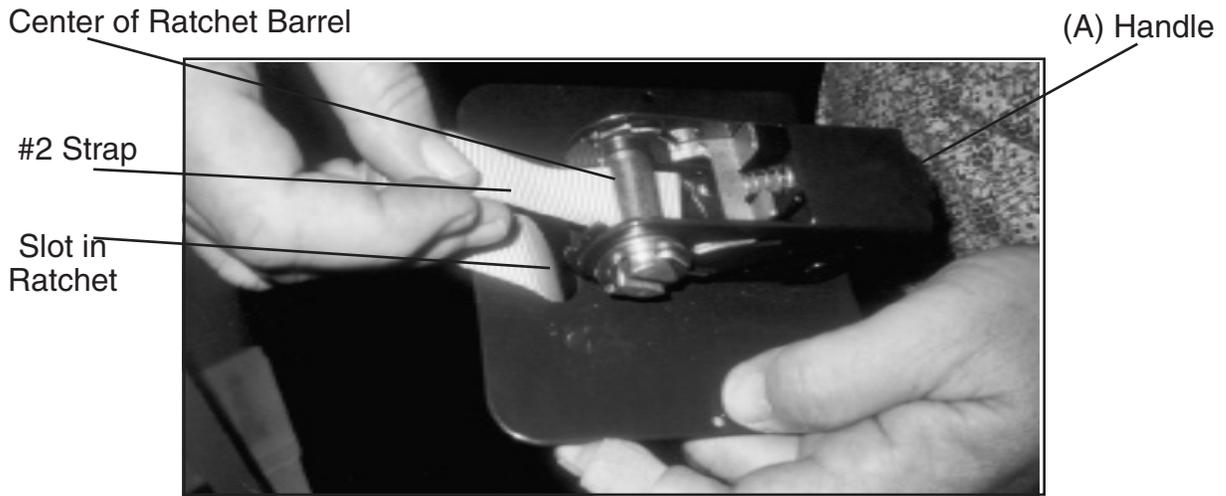

Figure 2
5. Feed the Strap (#2) through the slot in the Ratchet (#3), and then through the center of the Ratchet Barrel. **See Figure 2.**